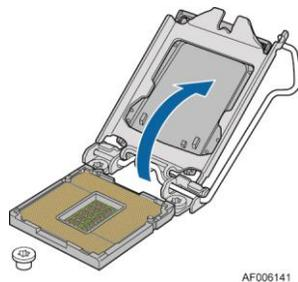

Figure 31. Installing Processor – Open the Load Plate
3. Open the load plate; see *Figure 31*.